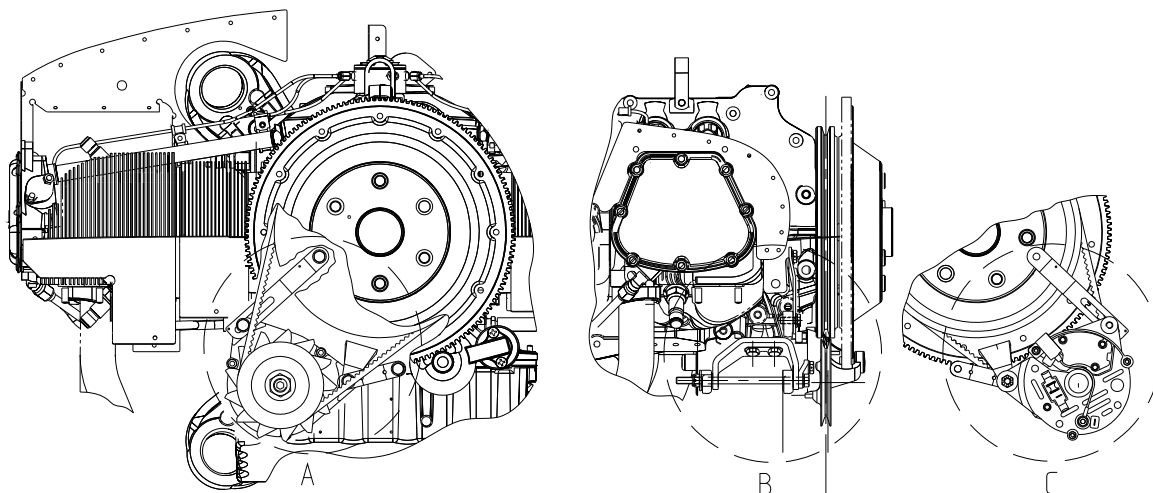

Figure 1: Overview of Prestolite Alternator Installation
- Install Prestolite Alternator according to AMM Ch. 24-30-03. Also refer to Figures 1 through 5 below for further details on the installation.